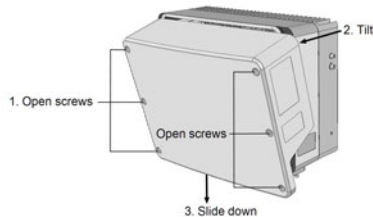

Figure 24: Removing the inverter cover
4. Open the inverter cover (see Figure 24).